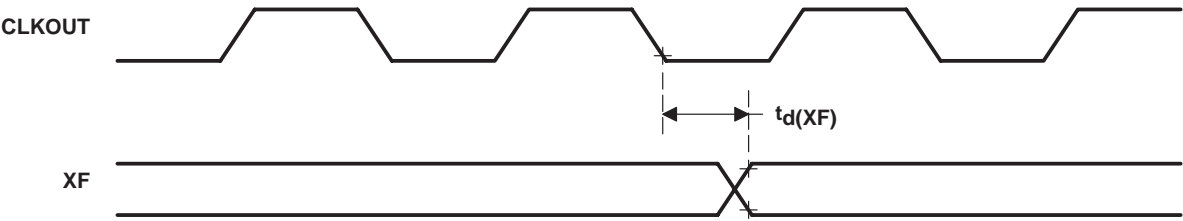
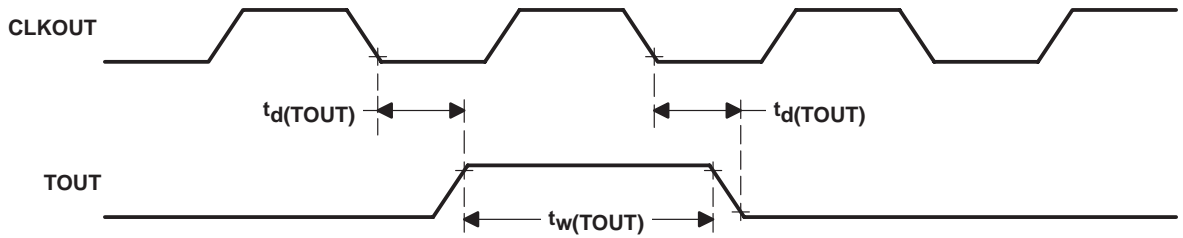

Figure 30. External Flag (XF) Timing
Figure 31. TOUT Timing
timing parameters for external flag (XF) and TOUT [ $H = 0.5 t_{c(\text{CO})}$ ] (see Figure 30 and Figure 31)